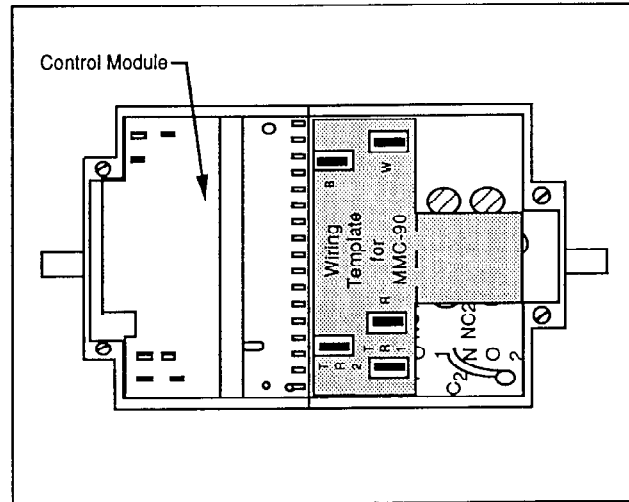

Figure 3. Wiring Template Installation.
3. The wiring template supplied can be used for easy terminal installation. Align the template over the terminal block (See Figure 3).